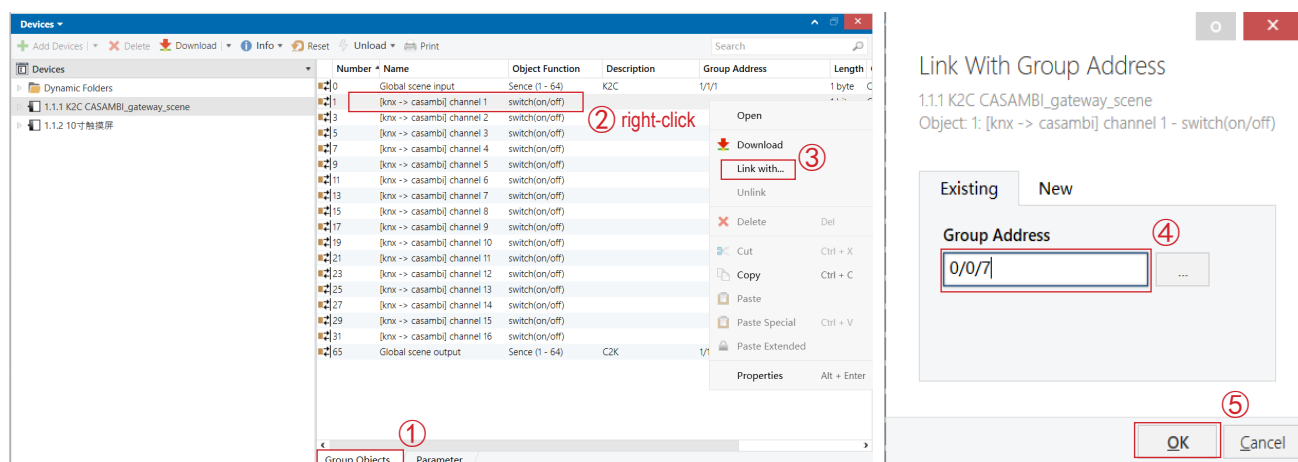

Figure 12
- For KNX -->CASAMBI scene on/off function: Assign group addresses for Group objects (“ knx->casambi channel x”, “switch(on/off)”), as in Figure 12.